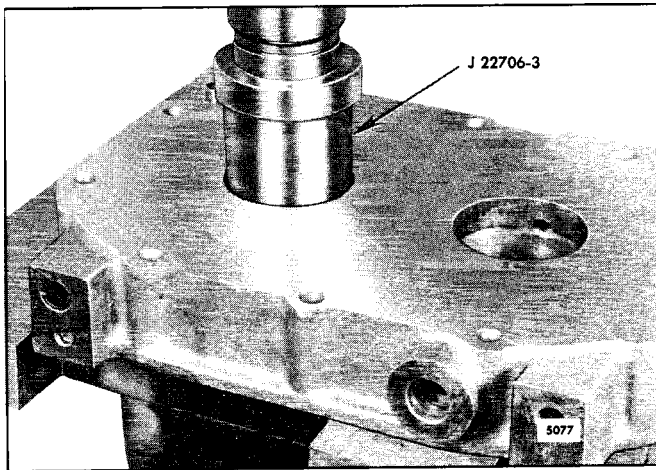

Fig. 10 - Removing Oil Seal Ring Collar and Bearing from End Plate using Tool J 22706-3
- i. Refer to Fig. 10 and support the outer face of the blower end plate on wood blocks on the bed of an arbor press.
- j. Place the long end of the oil seal remover and installer J 22706-3 down through the oil seal ring collar and into the bearing, with the opposite end of the remover under the ram of the press (Fig. 10). Then, press the bearing and oil seal ring collar out of the end plate.